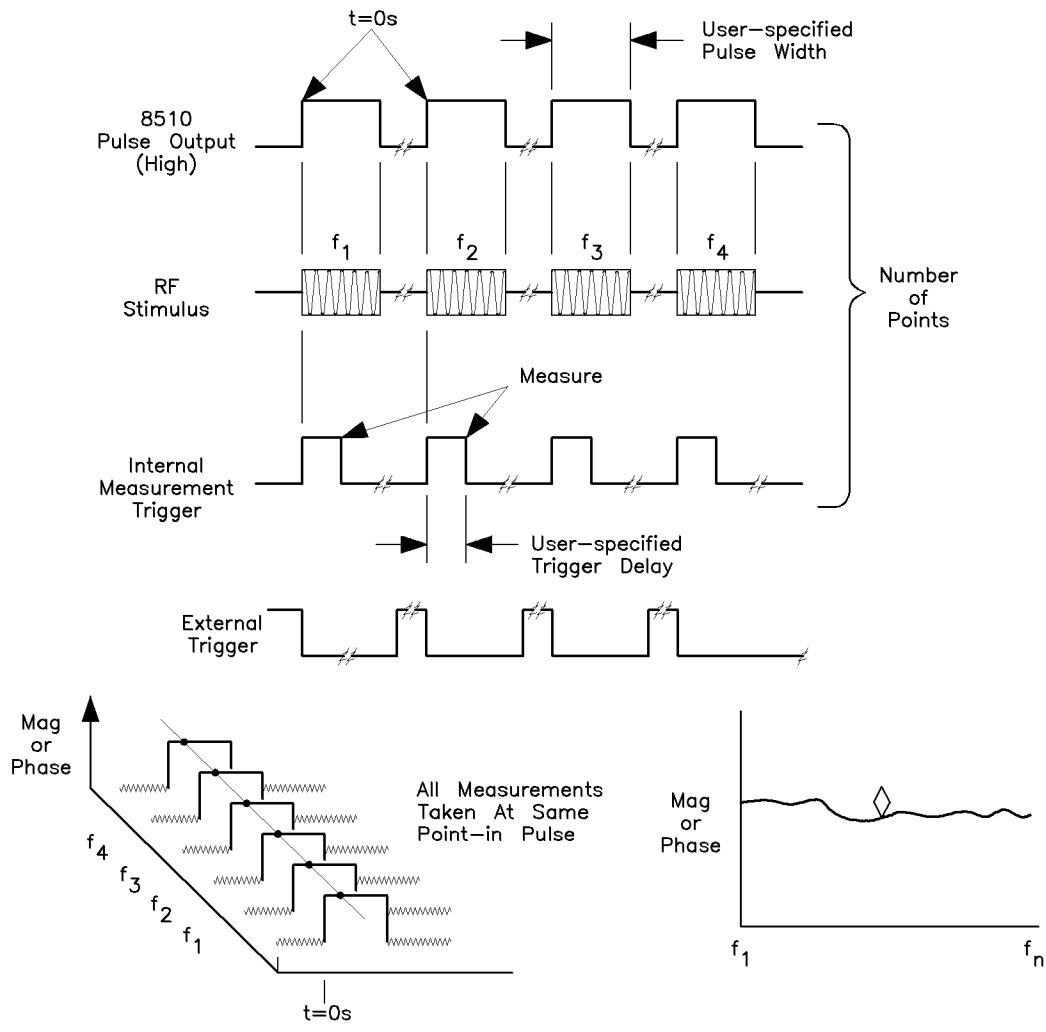

Figure 3-11. Pulsed-RF S-Parameters versus Frequency (Frequency Domain Point-in-Pulse)
1. **Pulsed-RF S-parameters versus Frequency.** Making pulsed-RF measurements in the frequency domain is accomplished by synchronizing the measurement process with the pulse so that the measurement is made at a single, user-specified time during the pulse. At each frequency, the sources are tuned, the RF is turned on, then the measurement is made after a certain delay. Figure 3-11 shows an example of this “frequency domain point-in-pulse” measurement using the internal pulse output and the internal measurement trigger. Each data point of the trace represents the response of the device to the pulsed stimulus at the same interval after the pulse is turned on.